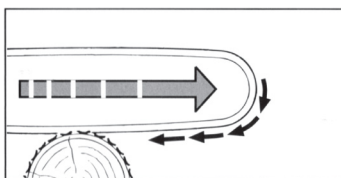

Fig. 3
- Cover the guide cover, turn the knob slightly to flip the cover, be careful not to tighten, as shown in figure 3.
- Open the knob cover, loosen the knob holder, loosen it, no need to disassemble, as shown in figure 3.